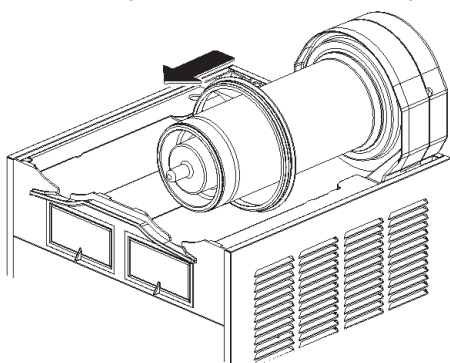

figure 10
- Remove the bowl gasket from its seat (see figure 10).